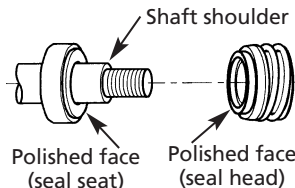

Figure 2 - Seal replacement
Refer to Figures 2 & 3.
IMPORTANT: Be sure that shaft shoulder does not damage polished face (see Figure 2).
- Wet inside rubber portion of new seal head with a light coating of soapy water. Slide head onto motor shaft with sealing surface facing seal seat. (See Figure 2).